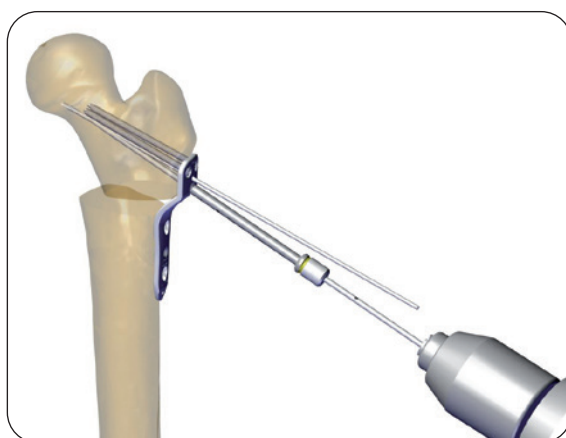

**Fig. 28**
**PRECAUTION:** Complete each locking screw insertion entirely before inserting the next screw to avoid a possible incorrect engagement of screw on the plate (**Fig. 28**).